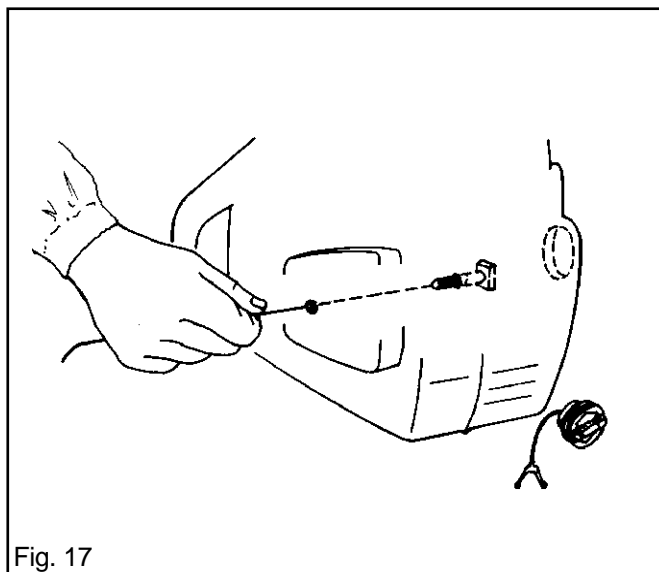

Fig. 17
4. Fasten a steel wire to the thread of the new bolt, thread the steel wire into the oil tank and out through the bolt hole in the crankcase. See fig. 17.